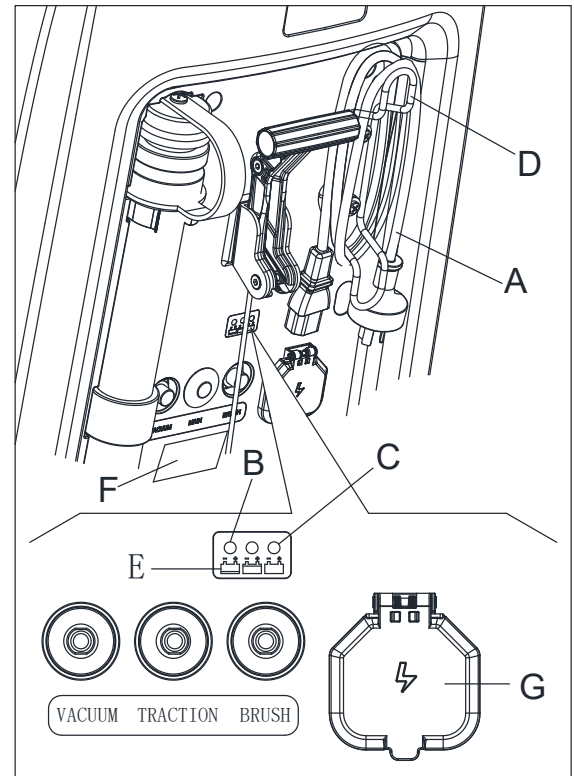

Figure 15
7. Connect the battery charger cable (A, Figure 15) to the electrical mains (G) (the electrical mains voltage and frequency must be compatible with the battery charger values shown on the machine serial number plate (F)). When the battery charger is connected to the electrical mains, all machine functions are automatically cut off. If the red warning light (B) on the battery charger control panel stays on, the battery charger is charging the batteries.
8. When the green warning light (C) turns on, the battery charging is completed.
9. When the battery charging is completed, disconnect the battery charger cable (A) from the electrical mains (G) and wind it round its housing (D).
For further information about the operation of the battery charger (E, Figure 15), see the relevant Manual.